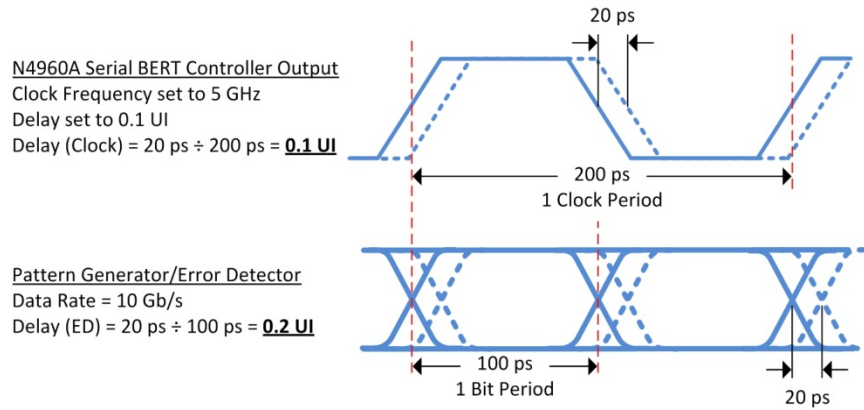

Figure 26. Delay relationship
**Figure 26** illustrates the delayed clock output from the N4960A serial BERT controller relative to the delay of a pattern generator or error detector connected to the Delay port. Note that one clock period corresponds to two bit periods. With the delay set to 0.1 UI in the N4960A serial BERT controller, the delay of the pattern generator/error detector will be set to 0.2 UI automatically. Conversely, if the delay of the pattern generator/error detector is set to 0.2 UI, the delay of the N4960A serial BERT controller will be set to 0.1 UI automatically.